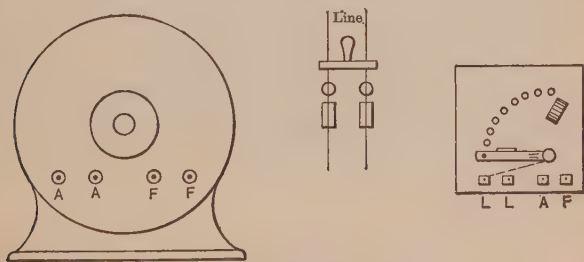

FIG. 150.
**Prob. 18.** In Fig. 150, connect the shunt motor, line and box.